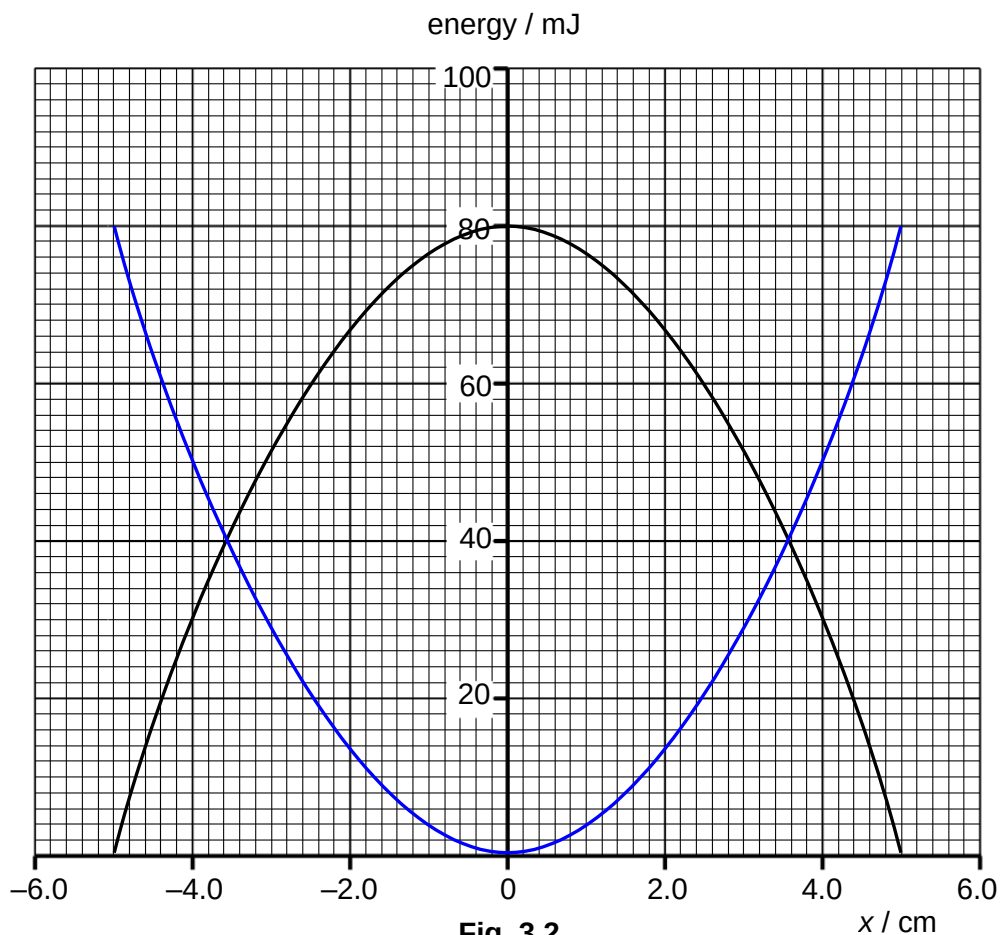

Fig. 3.2
The variation of kinetic energy with displacement x of the mass is shown in Fig. 3.2.
- (b) (i) Use Fig. 3.2 to determine the frequency of the oscillations.
- (ii) Draw, on Fig. 3.2, a graph to show the variation of potential energy stored in the springs with displacement x of the mass. [1]